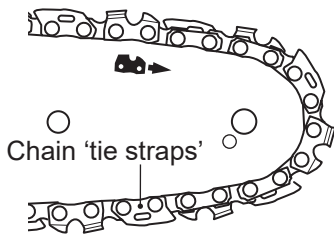

Fig. 10
- Place the product on a suitable flat surface with the chain saw cover (19) facing forwards.
- Check the chain tension using one hand to lift the saw chain (17) against the weight of the product. The correct chain tension is achieved when the saw chain can be lifted by approximately 2 - 4 mm from the guide bar (16) in the centre (Fig.10, 11).